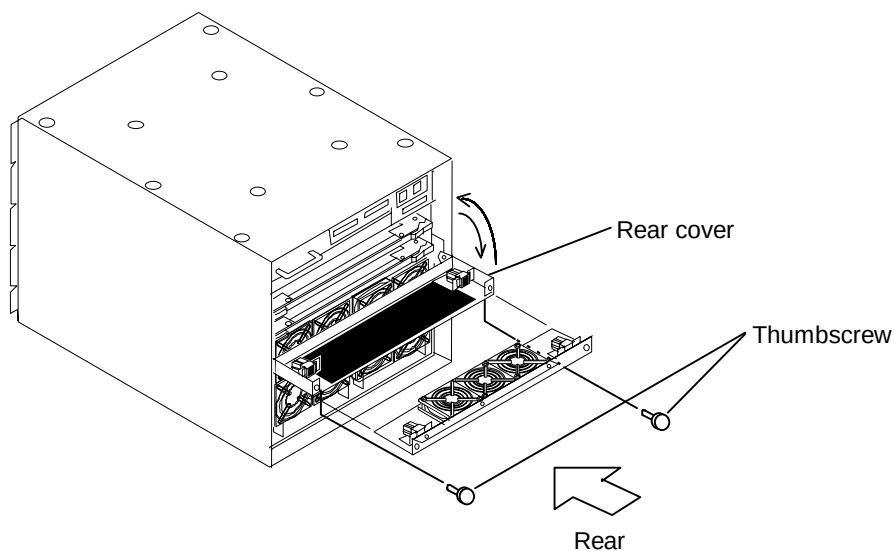

Figure 3.2.3 Opening/Closing the Rear Cover
(1) Opening procedure (See Figure 3.2.3.)
- ① Remove 2 thumb screws of rear cover and open rear cover.
(2) Closing procedure (See Figure 3.2.3.)
- ① Close rear cover in the reversed order of removing procedure.